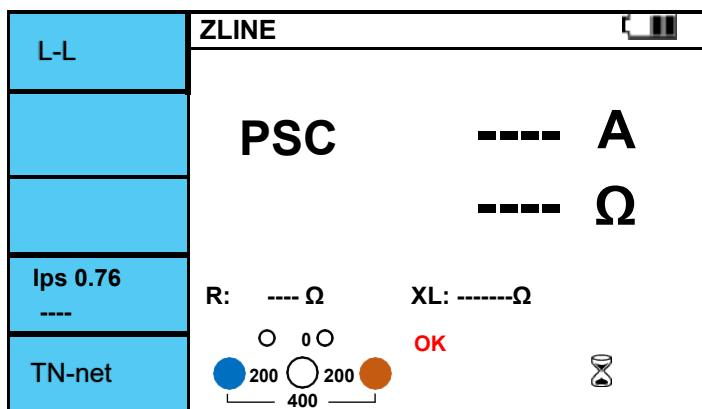

Figure 6.5.11 Z-line / L-L screen.
- IV. If there is no problem with the test lead connection, "OK" is displayed as shown in Figure 6.5.11.